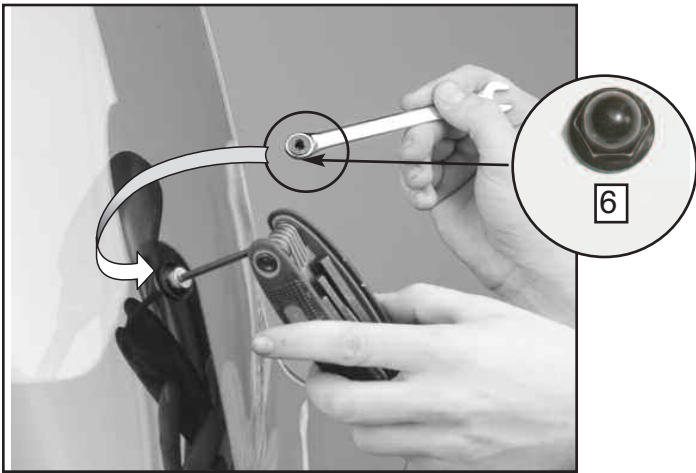

Figure 6
5. Tighten screws firmly (48 In-Lbs or 5 Nm). **Figure 6 (4mm Hex Key, 10mm Box Wrench)**